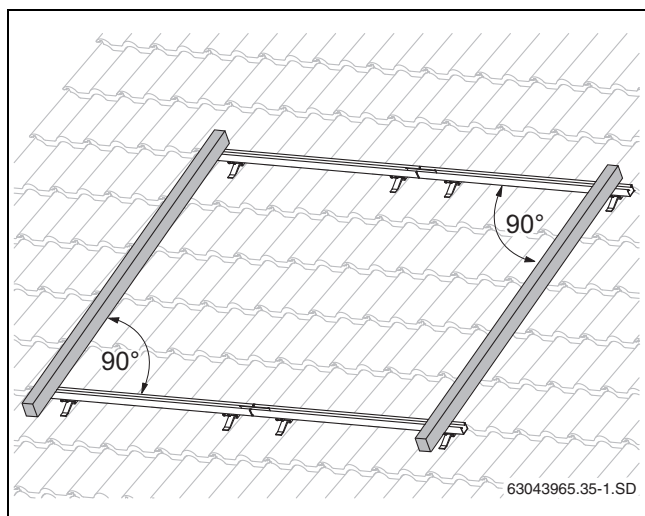

Fig. 29 Aligning the profile rails
- ▶ Align the upper and lower profile rails to the side flush with each other and level them (Fig. 29, use a spirit level).
Measure the diagonals or place a roof batten (Fig. 29), for example, at the ends of the profile rails. The angle between roof batten and profile rail must be 90°. Align the profile rails over the slotted holes.